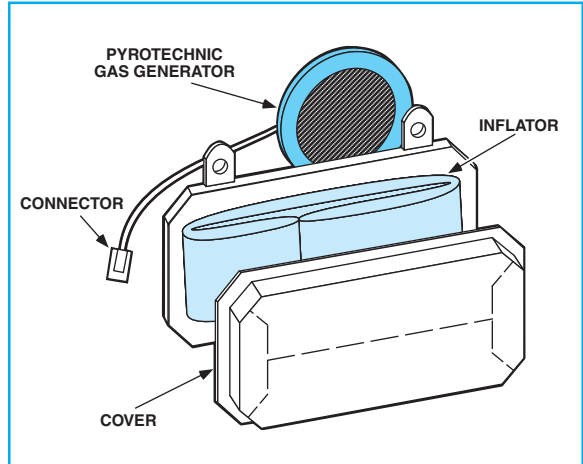

Figure 5
**A** Early side impact air bag modules were door mounted and used the same technologies as the driver frontal module (see Figure 5).